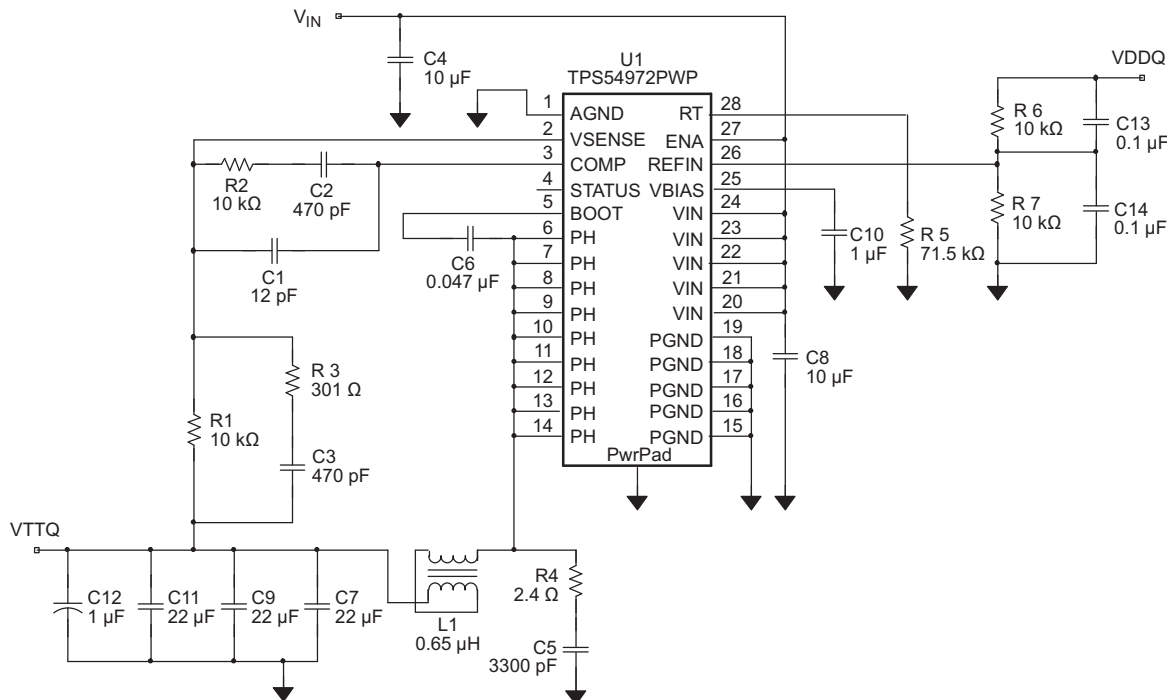

Figure 8. Application Circuit
- (1) Specified by design
(2) Static resistive loads only
(3) Specified by the circuit used in Figure 8
Figure 8 shows the schematic diagram for a typical TPS54972 application. The TPS54972 (U1) can provide up to 9 A of output current at a nominal output voltage of one half of $V_{(DDQ)}$ (typically 1.25 V). For proper operation, the PowerPAD underneath the integrated circuit TPS54972 is soldered directly to the printed-circuit board.